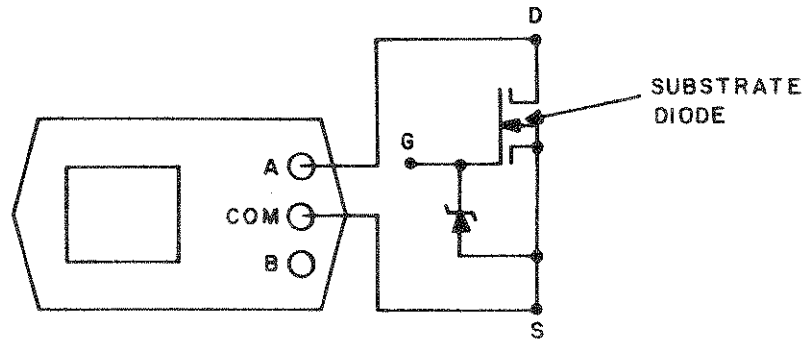

Figure 4-24. Tracker Connections to the Gate and Source
**TESTING THE SOURCE AND DRAIN.** To test the source and drain, connect the test probes to the source (S) and drain (D) terminals as shown in Figure 4-24; the gate (G) terminal is not connected. The tracker test signal is a sinewave and during the time the voltage at D is positive with respect to S, the D and S terminals appear as an open circuit to the tracker. However, when S is positive with respect to D, the substrate diode is displayed by the tracker. If the gate (G) is in contact